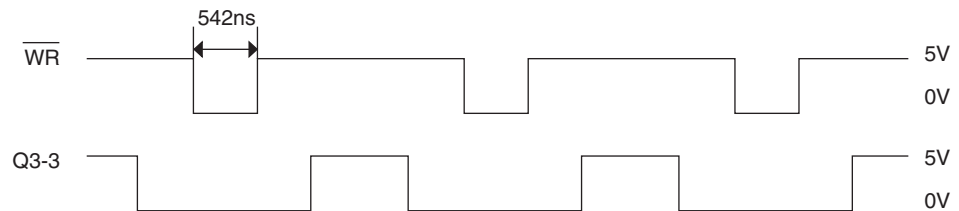

Figure B-3-5
• Yes Are \overline{WR} , and BUS signals of Q3 pin 3 as specified in Figure B-3-5?
• Yes Is 4 pin of Q6 identical to \overline{WR} signal in Figure B-3-5?